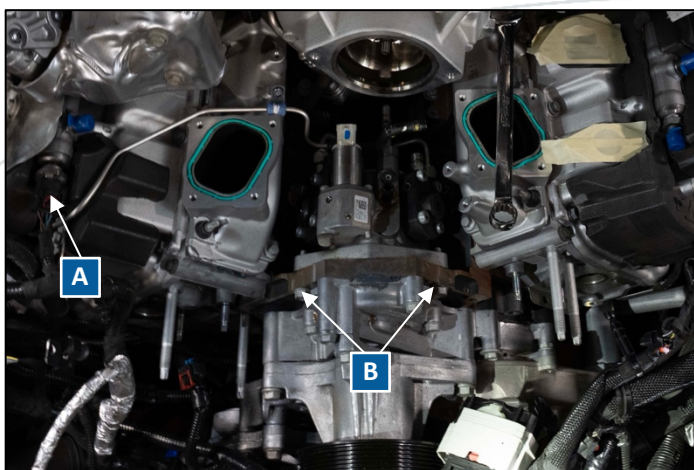

Figure 27: HP4 in the Valley
54. Disconnect rail pressure sensor plug and disconnect harness retention tab (labeled as A in Figure 27).
56. Remove HP4 mounting hardware, 13mm hex head bolt x4 (labeled as B in Figure 27).